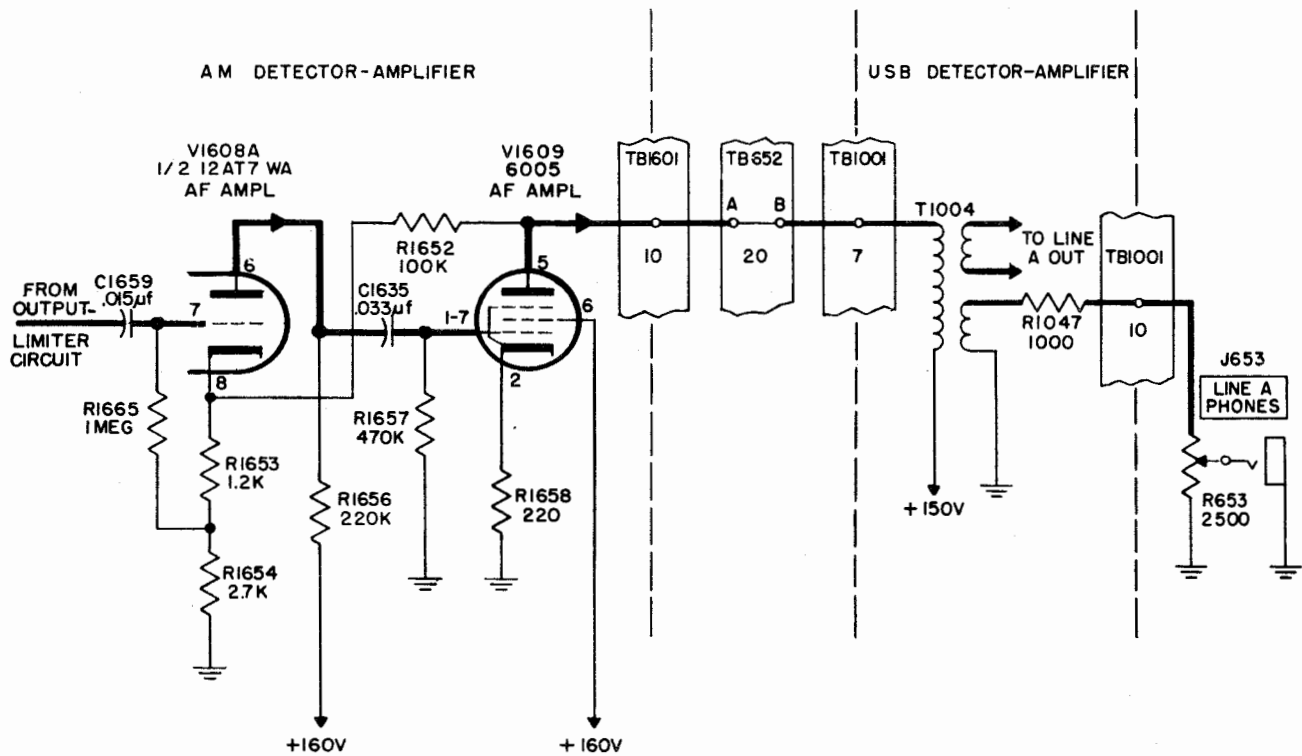

Figure 4-24. AF Amplifiers V1608A and V1609, Simplified Schematic Diagram
In the positive portion of the input signal cycle at A, as the varying AF signal increases in amplitude, the potential difference between points C and A becomes smaller. Since the voltage at C is still greater than that at A, there is still conduction through diode CR1605 and a consequent voltage drop across resistor R1668. This drop, however, is less than it was before application of AF voltage at A, because of the smaller difference in potential between points C and A. Therefore, the voltage at B is greater by the amount of decrease in voltage drop in R1668, and the voltage at E is correspondingly increased. This variation in AF voltage is impressed on the grid of V1608A (figure 4-24). Thus, all voltages on the positive half of the AF input signal are passed on to the V1608A grid so long as the voltage at which clipping occurs has not been reached.
g. AF AMPLIFIERS V1608A and V1609. (See figure 4-24.)—Amplifiers V1608A and V1609 are conventional AF amplifiers except for the application, from the plate of V1609 to the cathode of V1608A, of a negative feedback applied through a voltage-divider network consisting of resistors R1652, R1653, and R1654. Feedback is derived also from unbypassed